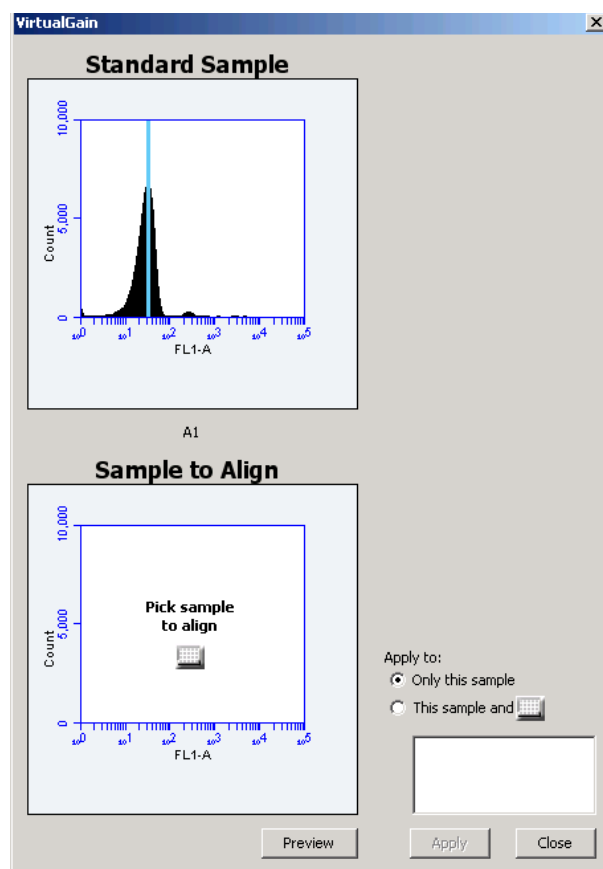

Figure 6-4 Step 7 and Step 8, Aligning plots.
6. Select **VirtualGain** from the Parameter List. The VirtualGain dialogue box will open (Figure 6-4).